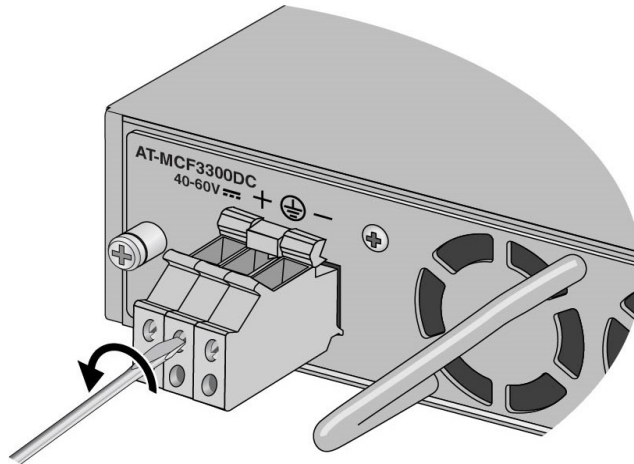

Figure 62. Loosening the Ground Screw on the MCF3300DC Power Supply
5. Loosen the retaining screw to the Ground connector on the power supply with a #1 flathead screwdriver. Refer to Figure 62.